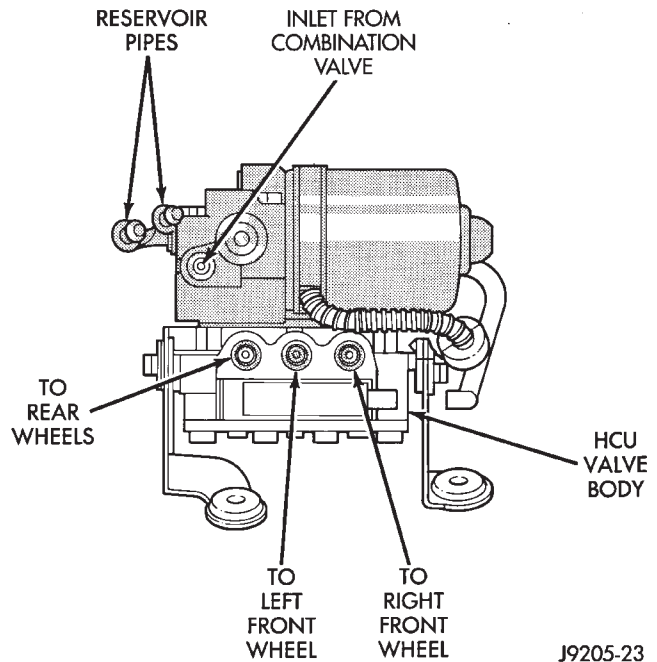

Fig. 18 HCU Hydraulic Line Connections
(1) Connect master cylinder reservoir hoses to HCU pipes.
(2) Position HCU assembly on mounting bracket and install attaching nuts.
(3) Connect hydraulic lines to HCU (Fig. 18). Line fitting nuts and bosses on valve body ports are color coded. Be sure lines are properly connected.